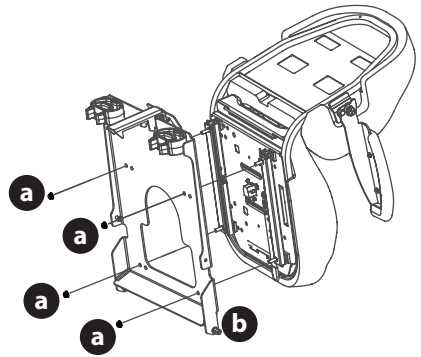

Figure 7
2. Install the seat onto the seat pan (b) using flange lock nuts (a) (Figure 7).